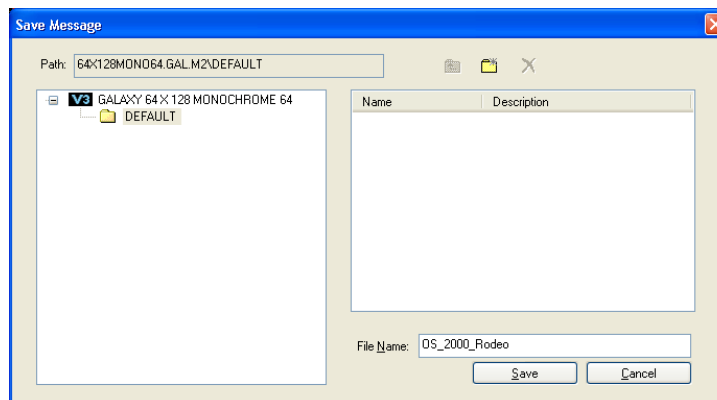

Figure 28: Save Message
- c. Select the folder where the message will be saved in and type in the name, for example "OS_2000_Rodeo" (*Figure 28*).